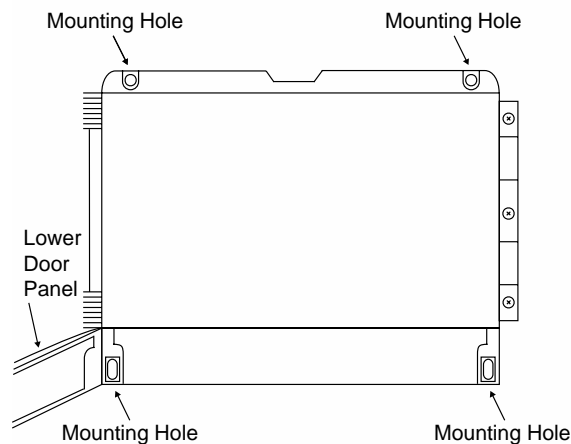

Figure 1. Scanner Mounting Holes Location
- Prepare a section of wall approximately 11" x 13" (280 mm x 330 mm) for scanner mounting by marking with a pencil the mounting holes (shown in *Figure 1*) on the wall.